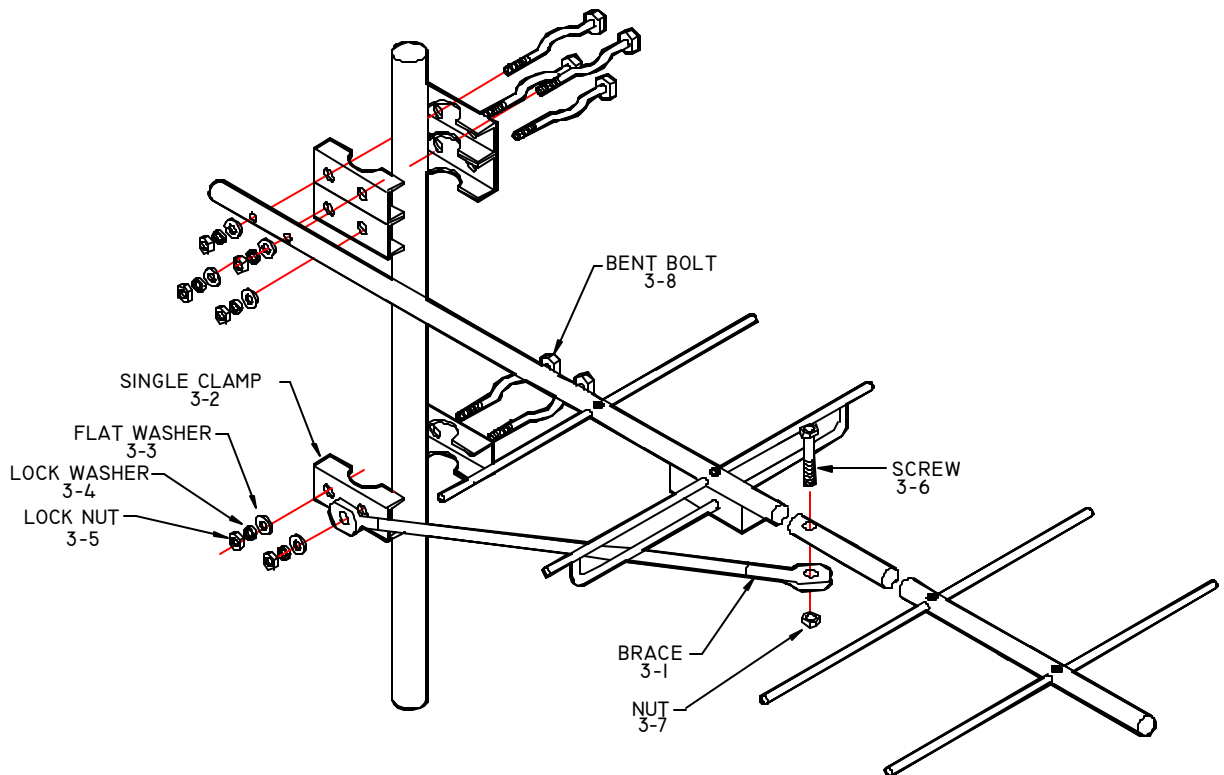

Figure 2
- a. With this hardware kit, use a single clamp on both sides of the mast and the remaining 3-1/2" bent bolts to capture the mast and the antenna brace mounting hole. See table below and Figure 2.